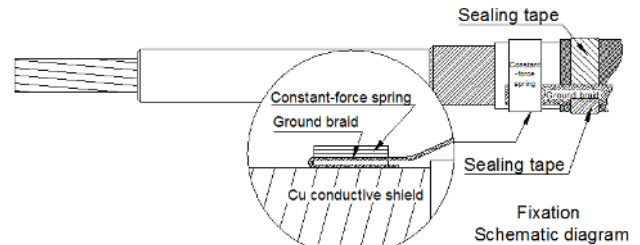

Fig.2-1
- Wrap the sealing tape onto the ground braid. as shown in Fig. 2-1.